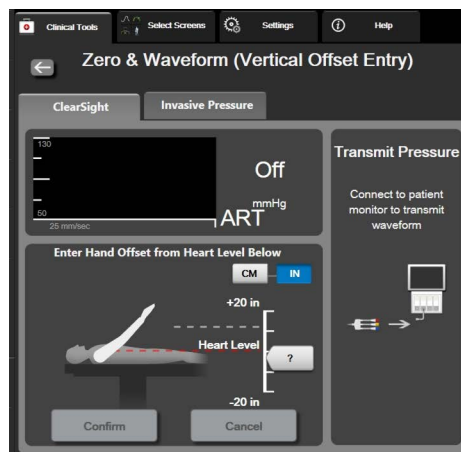

Figure 11-9 Zero & Waveform screen – Vertical Offset Entry
- 3 The **Zero & Waveform** screen in this mode (shown in figure 11-9) will depict a vertical scale bar to represent the offset of the hand relative to the heart; the heart level is set at zero. A positive offset signifies a patient position where the hand is above the heart. Select the units of the scale bar: **CM** or **IN**.